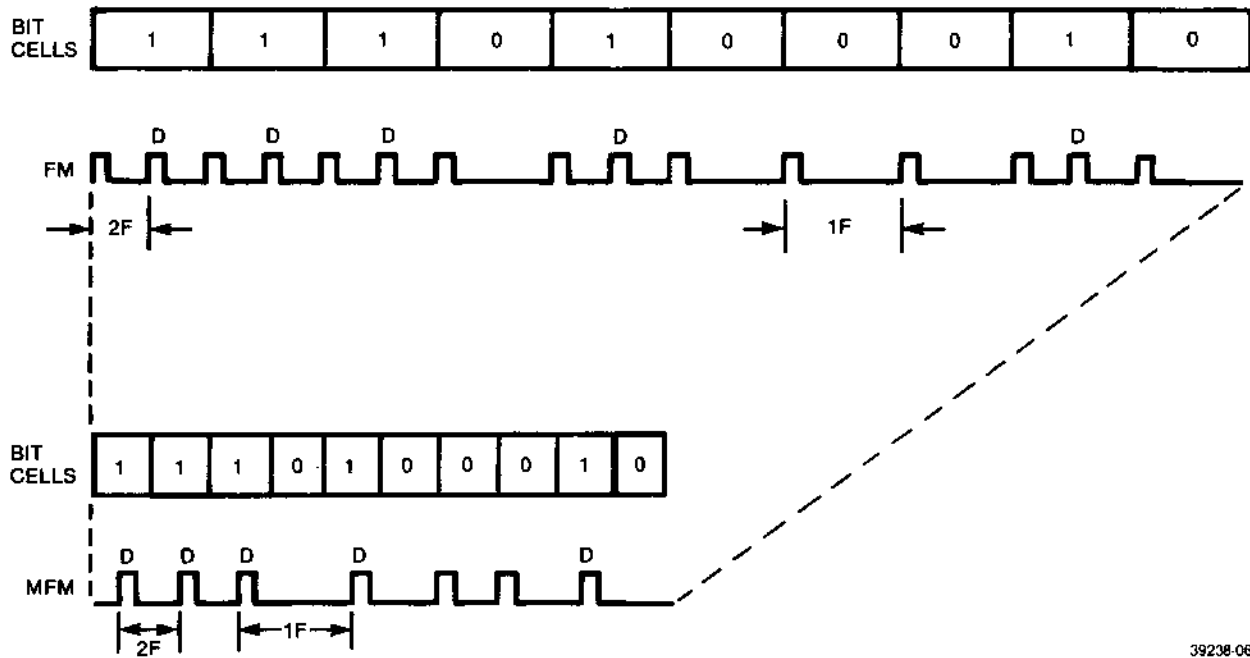

FIGURE 1-7. FM AND MFM CODE COMPARISONS
The encoding scheme of the recorded data can be either FM or MFM. FM encoding rules specify a clock bit at the start of every bit cell and a data bit at the center of the bit cell if this cell contains a one data bit, (see figure 1-7). MFM encoding rules allow clock bits to be omitted from some bit cells with the following prerequisites:
- a. The clock bit is omitted from the current bit cell if either the preceding bit cell or the current bit cell contains a one data bit. See figure 1-7.